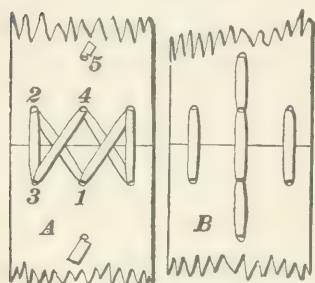

FIG. 16.
34. Lacing.—The ends of a belt may be joined by *lacing*, *sewing*, *riveting*, or *cementing*. Many ways of *lacing* belts are used. A very satisfactory method for belts up to 3 inches in width is shown in Fig. 16. Cut the ends of the belt square, using a sharp knife and a try square. Punch a row of holes according to the width of the belt, punching